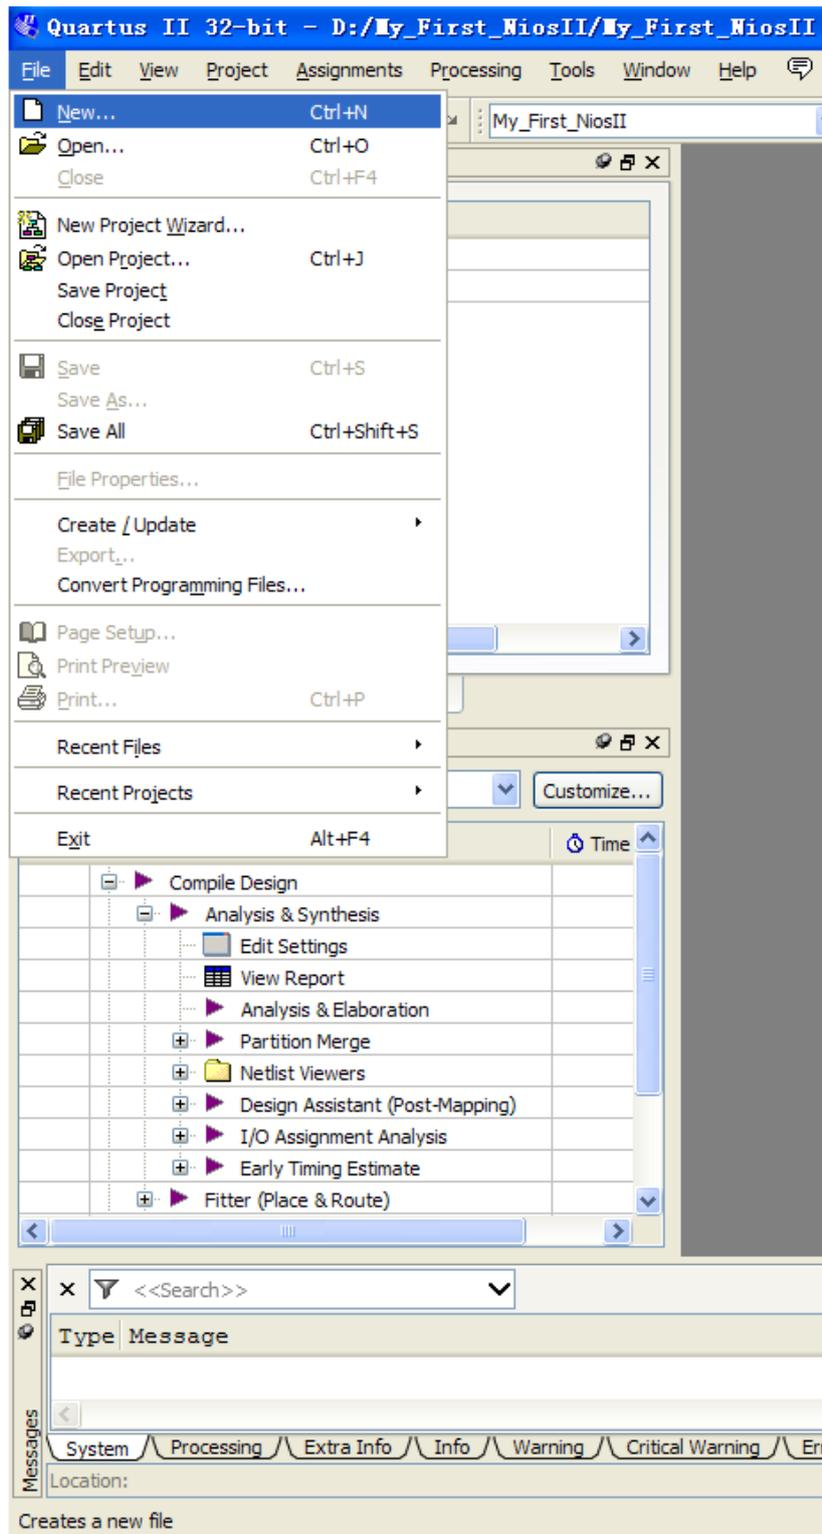
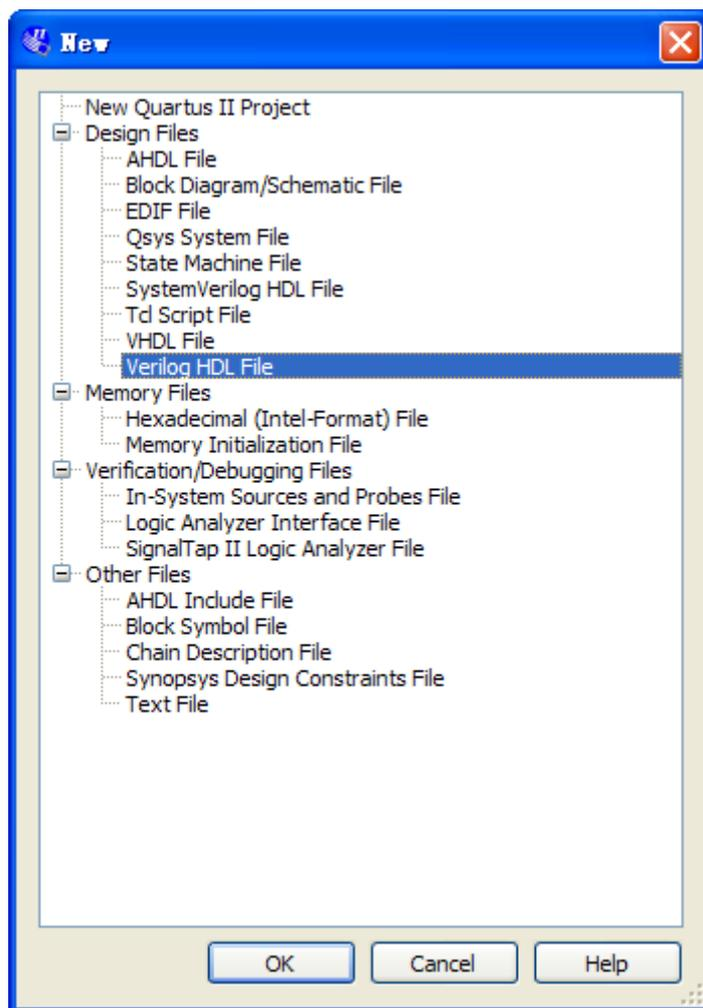

Figure 1-51 New Verilog file
Figure 1-52 New Verilog File
32. Choose **File > New** to open new files wizard. See Figure 1-51 and Figure 1-52.